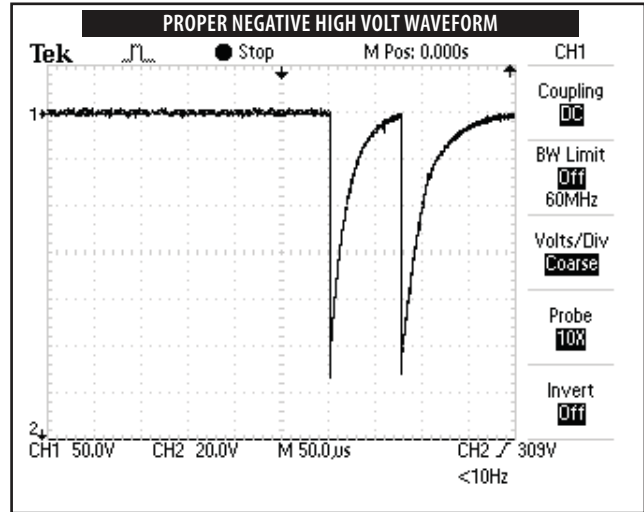

FIGURE 5.12
6. Compare waveform on scope to **Figure 5.12**.
1. Waveforms on scope the same as **Figures 5.12 and 5.13** and Amps do not exceed 1.5.